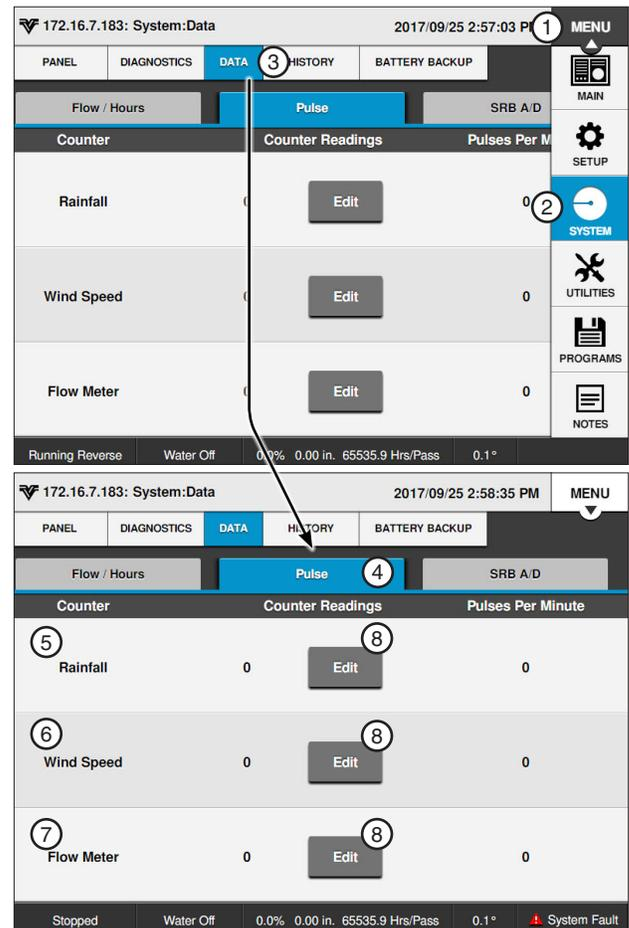

Figure 59-1
Pulse is used to review pulse counts from external equipment. There are three Pulse Counters: Rain, Wind and Flow. Refer to Figure 59-1.
1. Push **Menu**, **System**, **Data** and **Pulse** to display the Pulse screen. Refer to Figure 59-1.